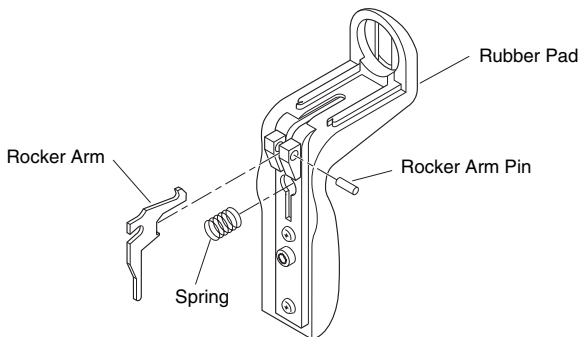

Figure 6 - Removing Rocker Arm
1. Push out rocker arm pin (see Figure 6).